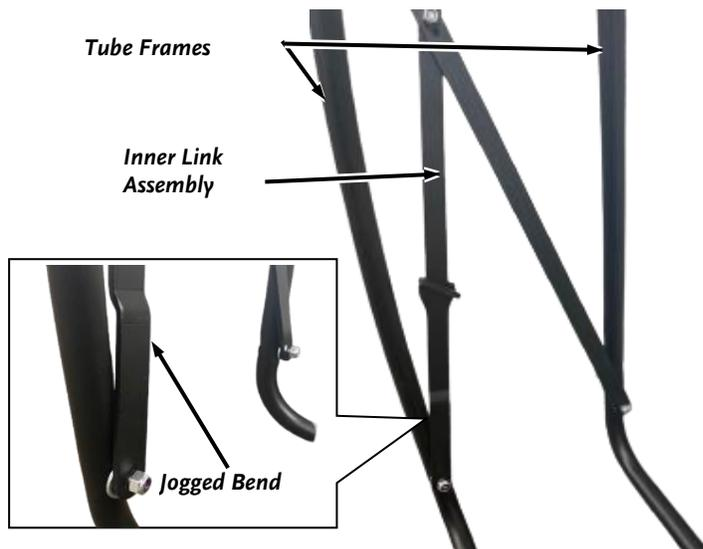

Figure 22
2. Orient the Inner Link Assembly onto the Tube Frames with the jogged bent link as shown (Figure 22).